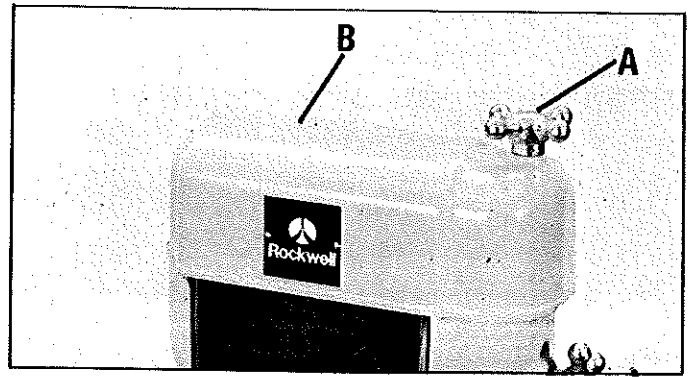

Fig. 8
1. Remove lock knob (A) and top cover (B) Fig. 8.